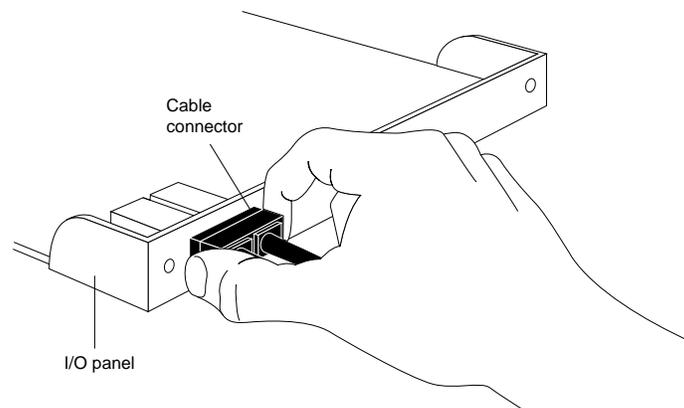

Figure 1-6 Disconnecting the cable from the FDDIXPI board
- Figure 1-6** Disconnecting the cable from the FDDIXPI board 9
4. Disconnect the cable from the FDDIXPI board, as shown in Figure 1-6.